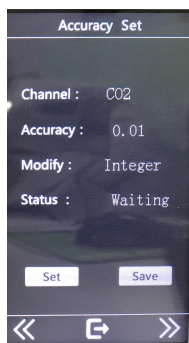

Figure 11
A) from the system interface, click precision setting to enter the precision setting interface (FIG. 11).